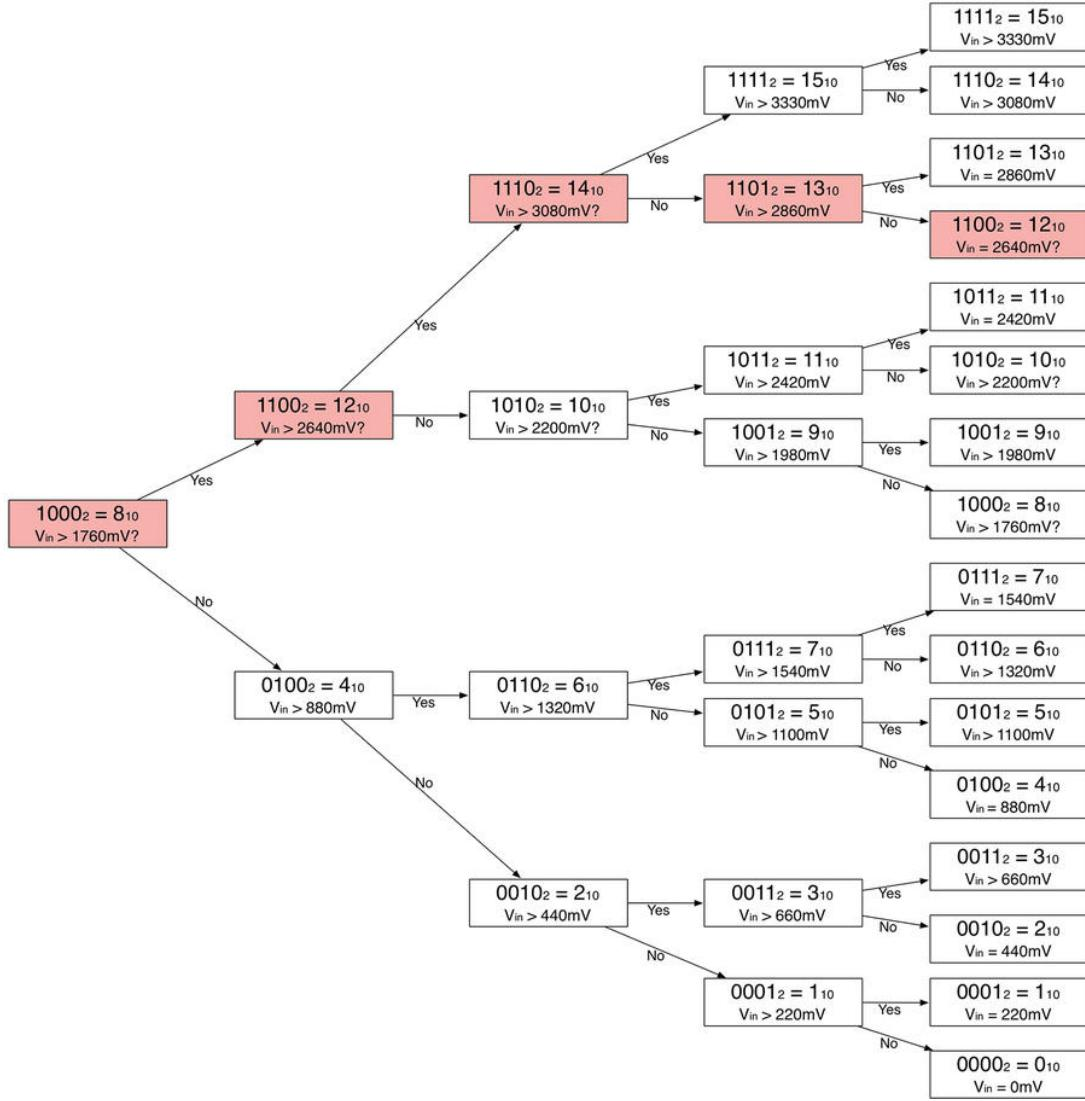

Figure 3: The conversion process made by a SAR ADC
**Figure 3** represents the conversion process made by the SAR logic unit inside a 4-bit ADC. Let us consider the path highlighted in red and let us suppose that  $V_{IN} = 2700mV$  and  $V_{REF} = 3300mV$ . The algorithm start by setting the MSB to 1, which corresponds to  $1000_2 = 8_{10}$ . This means that: